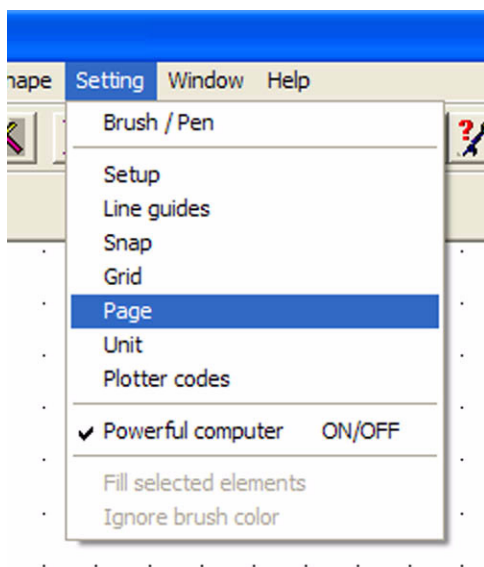

Figure 29
- 2 From the Setting menu, click **Page**. See figure 29.